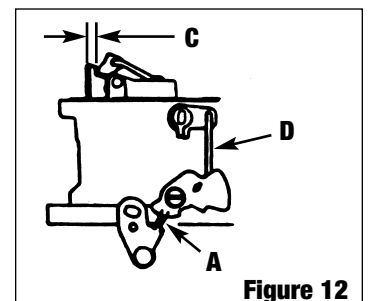

Figure 12
Manual choke models see FIG. 12. Place fast idle screw (A) on second step of cam. Move choke valve toward the closed position as far as possible without forcing. The dimension (C) should be 3/64" (0,12 CM) to 5/64" (0,19 CM) between the upper edge of choke valve and wall of air horn. To adjust, bend rod (D).
- **FAST IDLE LINKAGE, MANUAL CHOKE EQUIPPED CARBURETORS ONLY (FIG. 12)**
To adjust the fast idle linkage (Figure 12) place the fast idle screw (A) between the two notches on the cam. Close the choke valve as far as possible without forcing it. The dimension (C) should be 1/16" (0,12 CM) between the choke valve and the air horn. To adjust this dimension, bend rod (D).